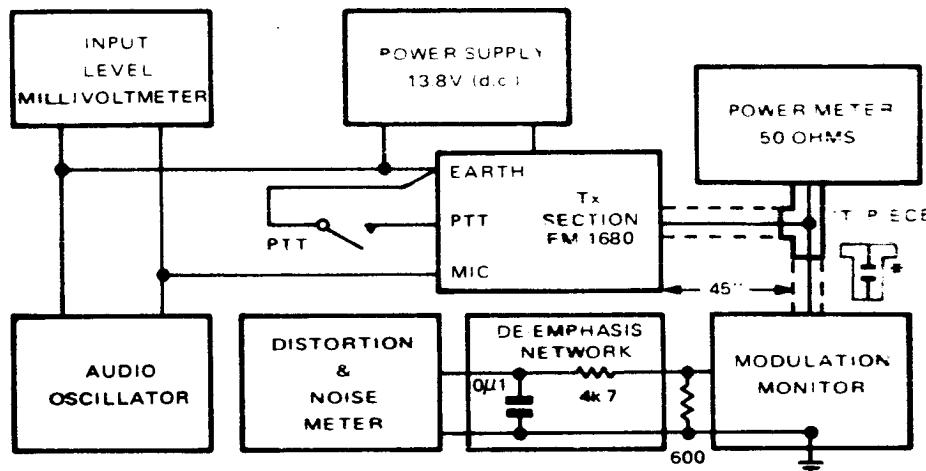

Figure 4
1. Set up the equipment as shown in Figure 4.
1. Check that the test equipment is connected as shown in Figure 4.